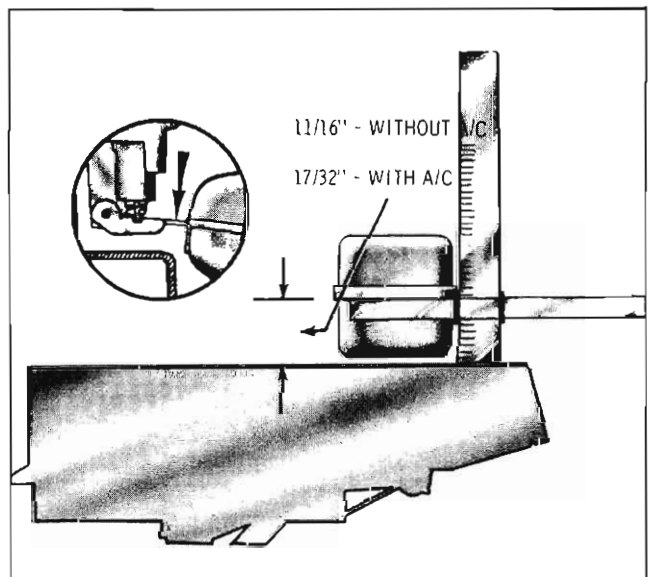

Fig. 4-138 Float Level Adjustment
- Install the two main well tube inserts into the main wells. Make sure the lip on the main well inserts are seated properly in the casting. (Fig. 4-138)
FLOAT LEVEL ADJUSTMENT (Fig. 4-138)
2. Bend the float arm as shown in Fig. 4-138.